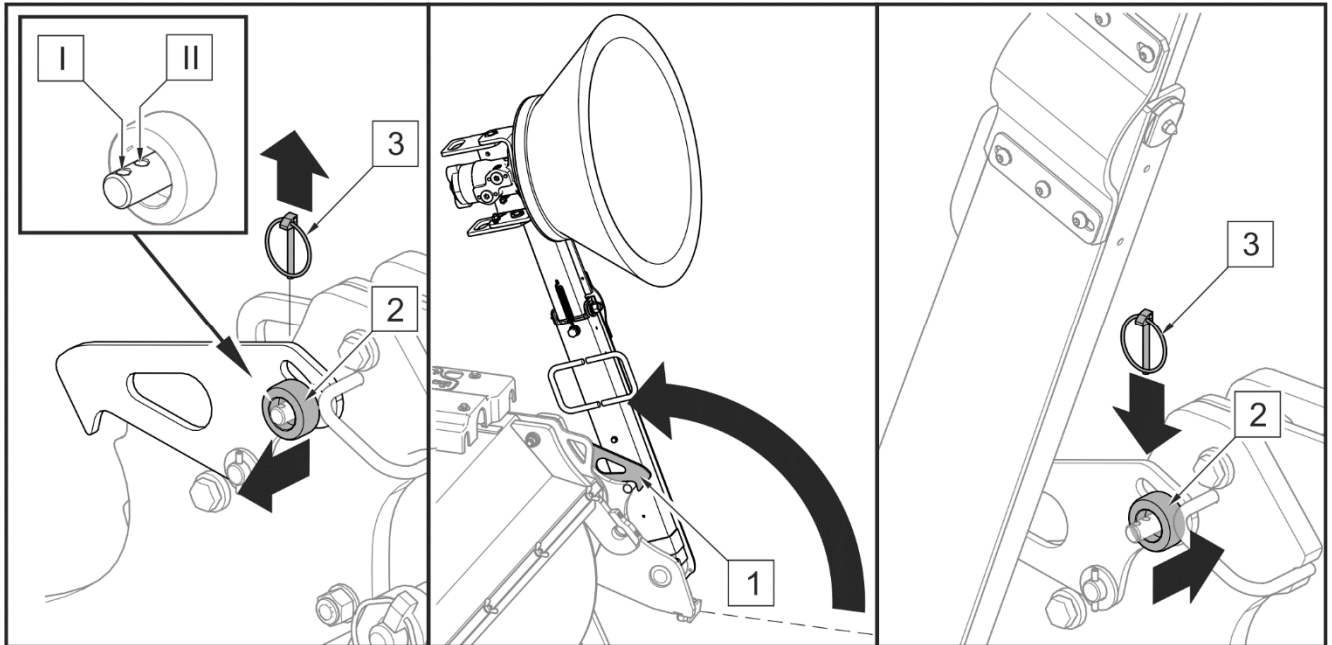

FIGURE 4.14 Raising the side brushes
The side brushes can be independently raised and locked in their upper position (FIGURE 4.14). In order to do this:
During operation and transport travel with raised side brush (FIGURE 4.14), interlock knob (2) should be tightened and locked with cotter pin (3) in opening (II).
- Raise the side brushes (if installed) (FIGURE 4.14)